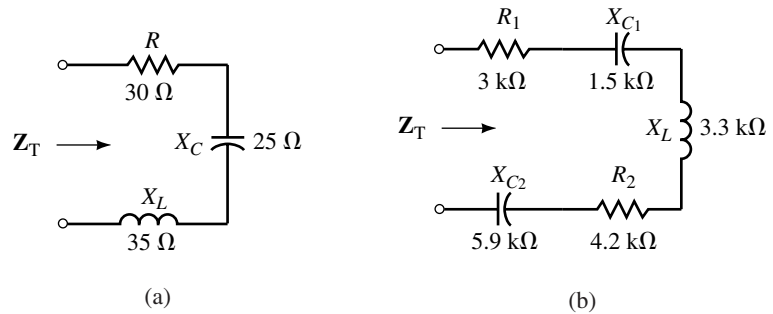

FIGURE 18–88
14. Repeat Problem 13 for the networks of Figure 18–89.
15. Refer to the network of Figure 18–90.